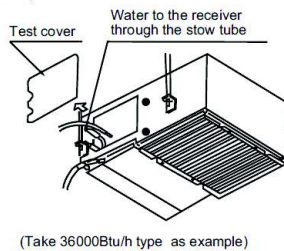

Fig.9-4
- Remove the test cover, and stow water of about 2000ml to the water receiver through the stow tube. (Refer to Fig.9-4)